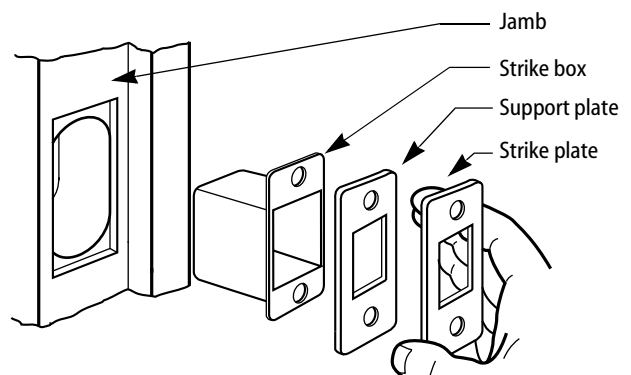

Figure 4 — Installing the strike box, support plate, and strike plate
- 3 Using the strike as a guide, mortise the jamb. Then install the strike box, support plate, and strike plate with screws. See Figure 4.